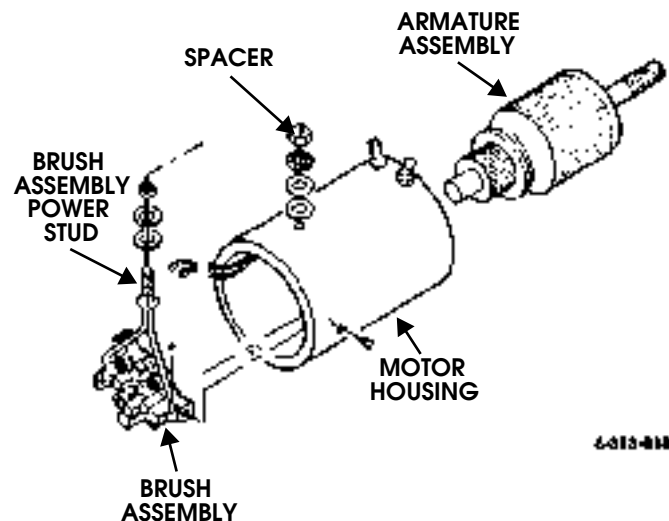

Figure 9-207: Brush Assembly and Armature Assembly
8. Remove motor housing from drum support and armature assembly from brush assembly (Figure 9-207).
1. Install washer, insulator, and spacer on brush assembly power stud (Figure 9-207).